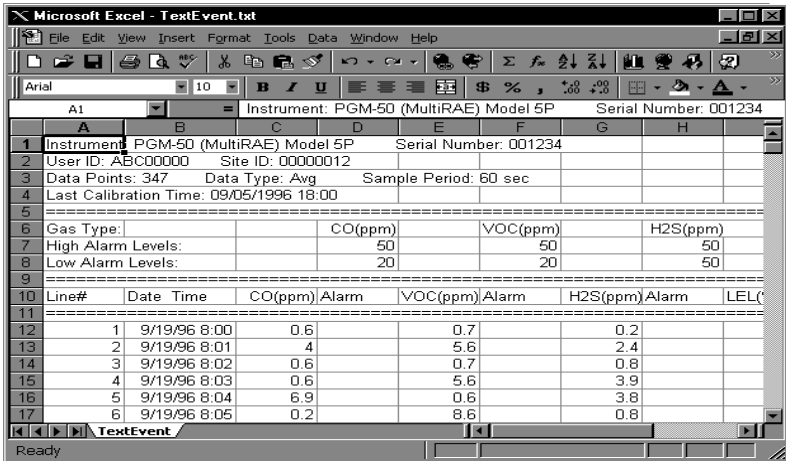

Figure C-4 File Text Event.txt is Open
- Click **Finish** button, the dialog box disappears and the event data is loaded into the MS-Excel software, as shown in Figure C-4.